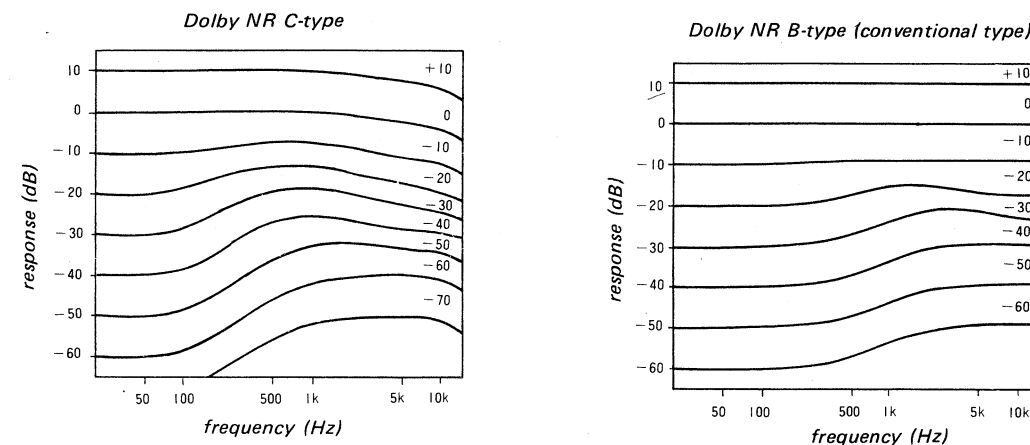

Fig. 1 Encoding characteristics
The Dolby NR B-type system thus reduces tape noise by 10 dB at 5 kHz. The C-type system reduces noise by 20 dB at 5 kHz. The Dolby NR C-type system also begins to take effect at frequencies lower than the B-type system. (Refer to Fig. 1, 2)
Therefore, during recording, it shows the encoding characteristics in Fig. 1. During playback, the opposite characteristics of the encode are shown, causing the control signal to be fed back to terminal ⑩ of IC101 and IC102.